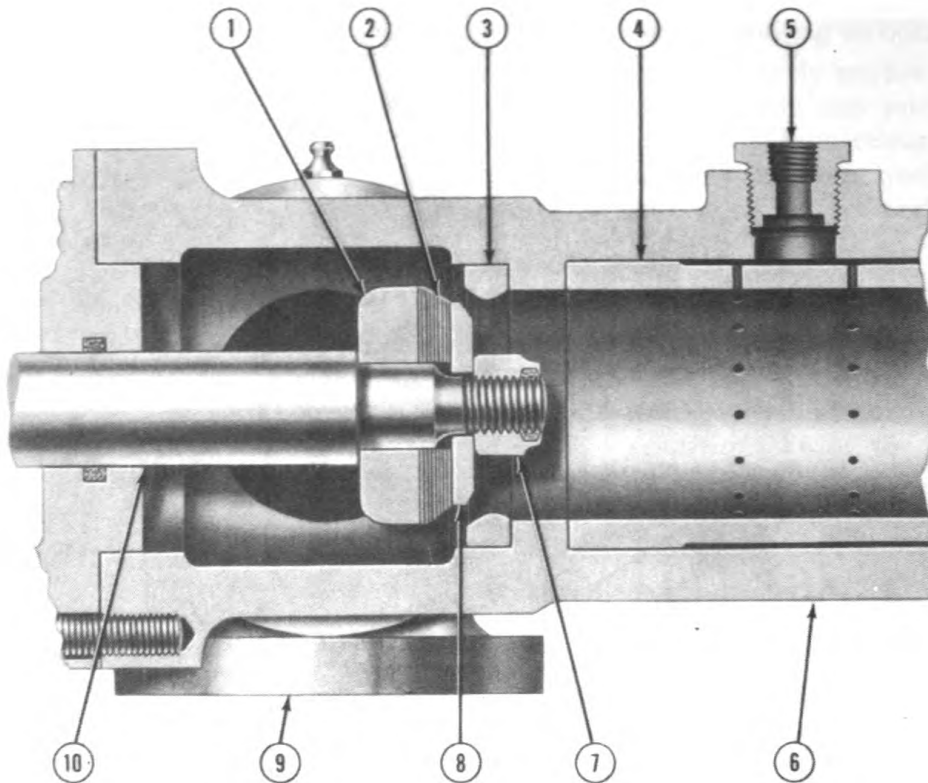

Figure 59—Main gun valve and vertical trunnion or gun body (sectional view).
(1) The main gun valve (figs. 59 and 60) and the main piston chamber are located together. On the forward end of the main valve stem is a specially formed fiber disk which seats against the metal ring seat in the gun body. This disk rests against the main piston collar and is held in place by means of a metal washer and an elastic stop nut. The fiber disk is replaceable. The valve stem passes through a central hole in the forward wall of the main piston chamber. Attached to the stem and riding
- (5) Remove main spring guide and main piston spring.
- (6) Remove main spring housing by taking out the six hex socket head cap screws holding housing to main piston chamber.
- (7) Remove the main piston chamber by unscrewing cap screws threaded into gun body. Preserve the main piston chamber gasket if in good condition or replace if damaged (figs. 59 and 60).
- (8) Slide main piston to rear of main piston chamber. Hold piston rod by a wrench to prevent rotation and then remove elastic stop nut with another wrench.
- (9) Remove valve washer, fiber disk and main valve piston collar successively. The piston rod may now be pulled rearward through the partition of the main piston chamber.
(2) *Seat.* This seat inside the rear portion of the gun body is a beveled metal ring insert which is press-fitted into place and is not removable (fig. 59).